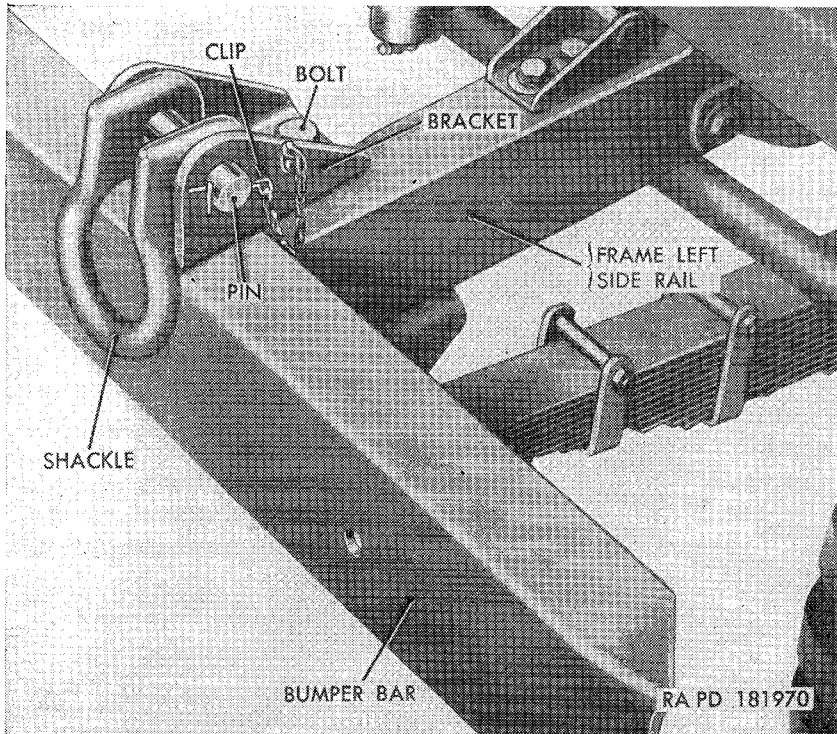
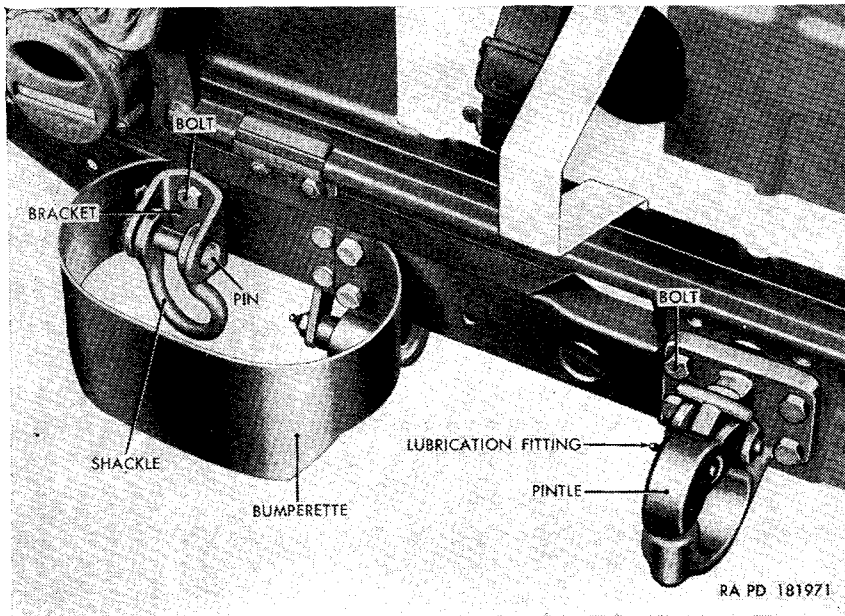

Figure 189. Front lifting shackle and bracket—installed.
Figure 190. Left rear lifting shackle, bumperette, and towing pintle—installed.
a. Front Lifting Shackles and Brackets (fig. 189).
b. Rear Lifting Shackles and Brackets (fig. 190).
c. Bumperettes (fig. 190).
- (1) *Removal.* Remove the rear lifting shackle and bracket (*b*(1) above). Remove the two bolts, nuts, and lockwashers securing the inner end of the bumperette to the frame rear cross member. Remove the bumperette.
- (2) *Installation.* Place the bumperette in position at the rear of the frame rear cross member. Secure the inner end of the bumperette to the cross member with two $\frac{1}{2}$ x 1 bolts, $1\frac{1}{32}$ -inch ID, $\frac{7}{8}$ -inch OD lockwashers, and $\frac{1}{2}$ -inch nuts. Install the rear lifting shackle and bracket (*b*(2) above).
d. Towing Pintle Assembly (fig. 190).
- (1) *Removal.* Remove the four bolts, lockwashers, and nuts securing the towing pintle assembly to the frame rear cross member and reinforcement. Remove the pintle. Unscrew the two lubrication fittings from the pintle.
- (2) *Installation.* Install two $\frac{1}{4}$ -28NF lubrication fittings in the towing pintle assembly. Position the towing pintle in place at the rear of the vehicle. Secure the pintle to the frame rear cross member and reinforcement with four $\frac{1}{2}$ x 2 bolts, $\frac{1}{2}$ -inch lockwashers, and $\frac{1}{2}$ -inch nuts.
e. Bumper Bar (fig. 189).
- (1) *Removal.* Remove the front lifting shackles and brackets (*a*(1) above). Remove the six bolts and lockwasher nuts securing the bumper bar to the frame side rail.
- (2) *Installation.* Position the bumper bar in place on the front of the two frame side rails. Secure the front of the bumper bar to each side rail with one $\frac{3}{8}$ x $\frac{7}{8}$ bolt and $\frac{3}{8}$ -inch lockwasher nut. Secure bottom of bumper bar to each side rail with two $\frac{3}{8}$ x $\frac{7}{8}$ bolts and $\frac{3}{8}$ -inch lockwasher nuts. Install the front lifting shackles and brackets (*a*(2) above).